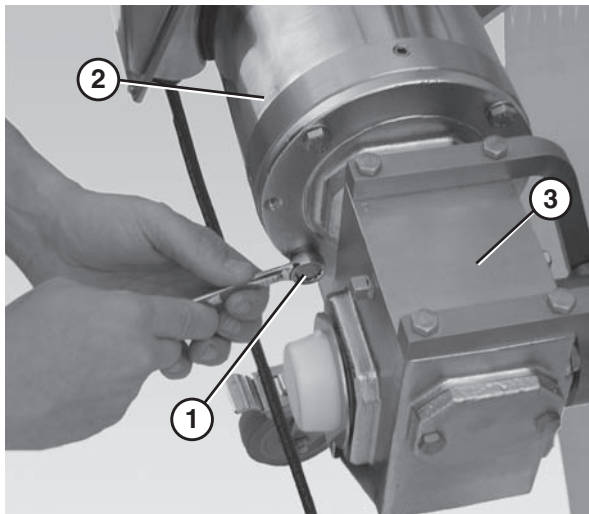

Figure 44
5. Remove the bolts (Figure 44, item 1) that connect the motor (Figure 44, item 2) to the gear reducer (Figure 44, item 3) (horizontal drive shown in figures).